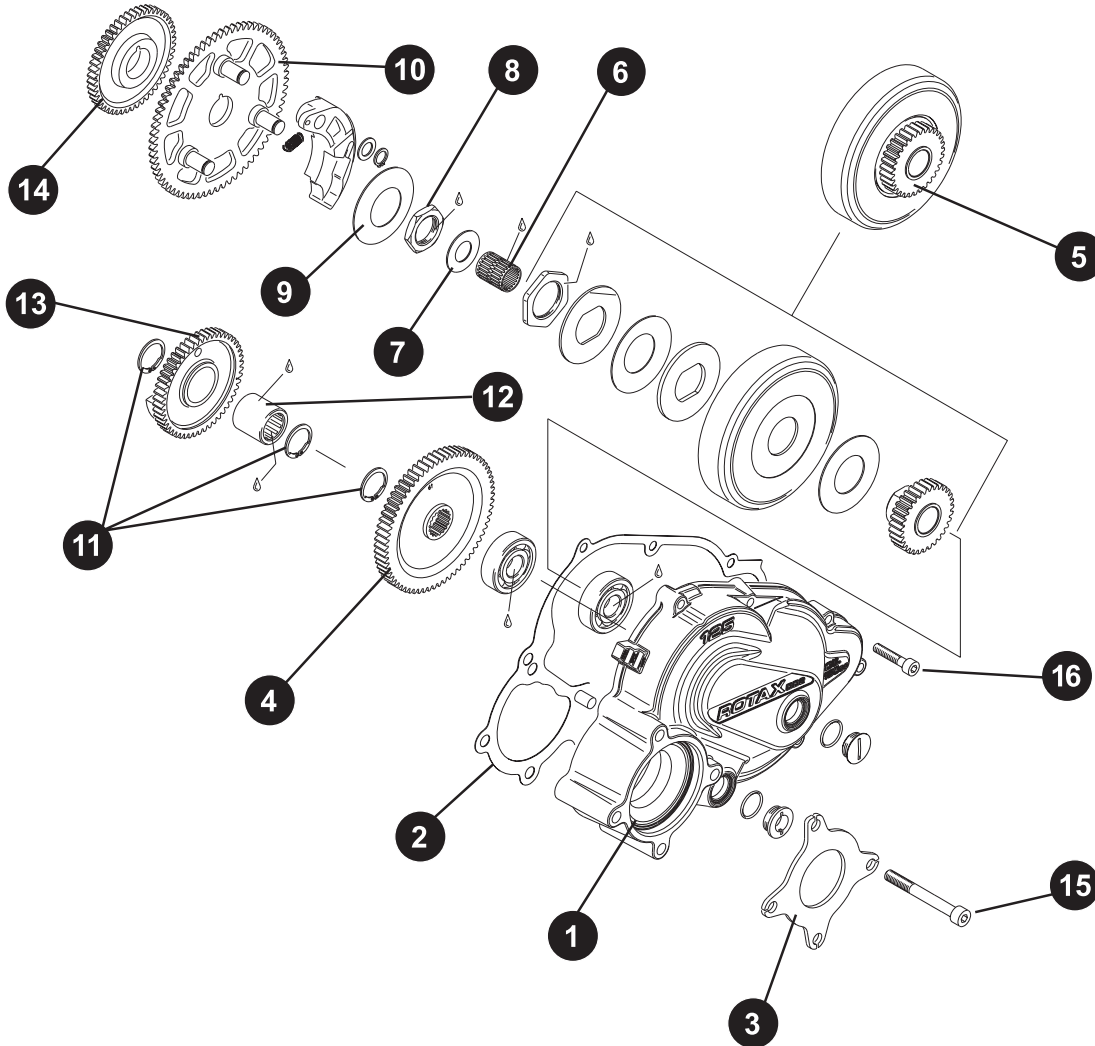
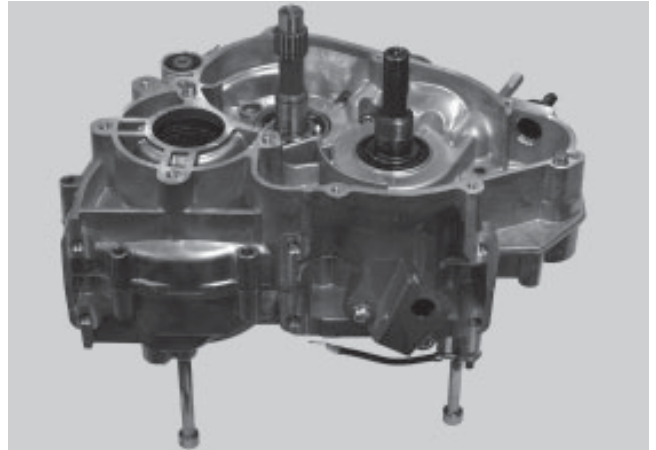

Fig. 26
Fig. 31
◆ **Note:** All item numbers on this page relate to Fig. 26.
- ⇒ Screw in 3 M8 x 70 fixing screws (Item 15, Fig. 26) from the support plate (Item.3, Fig. 26) equally, for use as leveling feet, see Fig. 31.